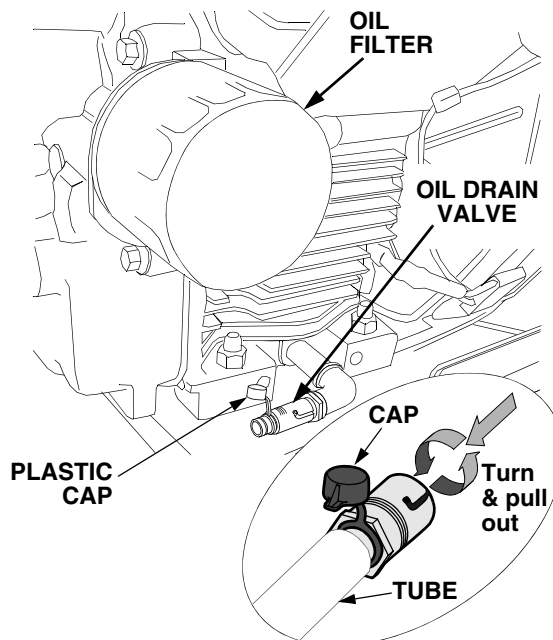

Figure 20
The oil filter is located on the left side of the engine (See Figure 20).
3. Unseat the plastic dust cap from the engine oil drain valve. To prevent loss of the cap, do not remove the cap's retaining ring from the drain valve (Refer to Figure 20). Remove the dipstick and oil fill cap.